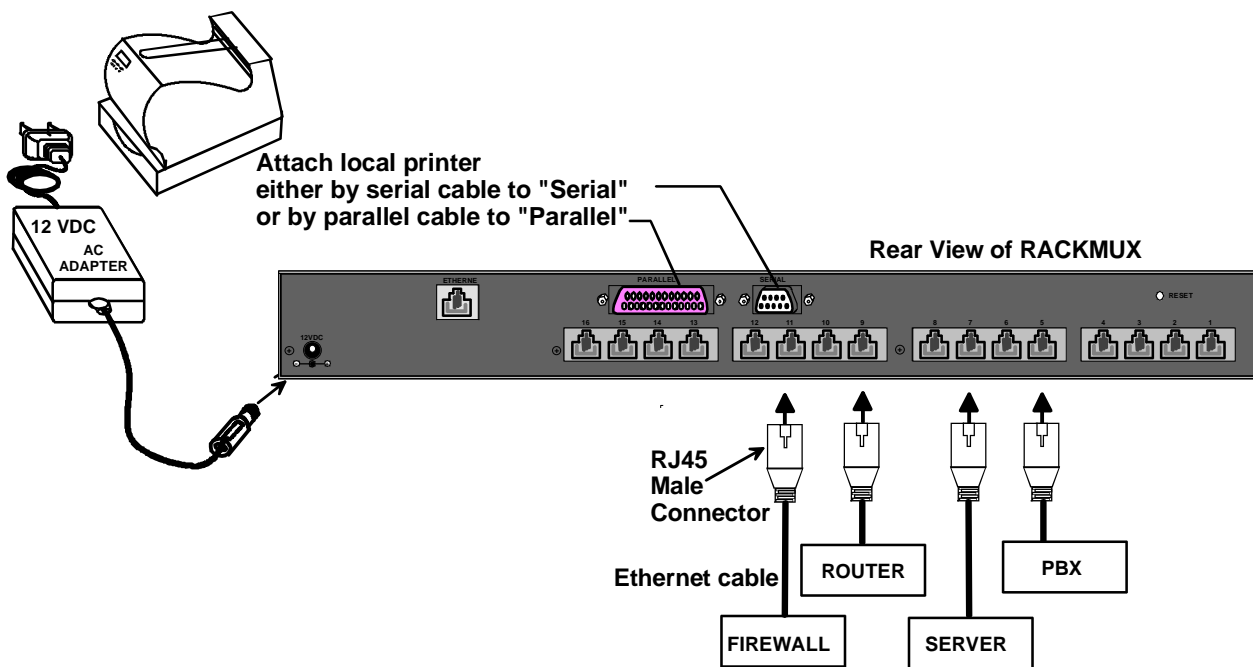

Figure 3- Connect serial devices, printer, and power supply
2. If connecting a printer, connect either a serial printer cable to the remaining male SUB D 9 connector or a parallel printer cable to the female SUB D 25 connector (see Fig. 3).